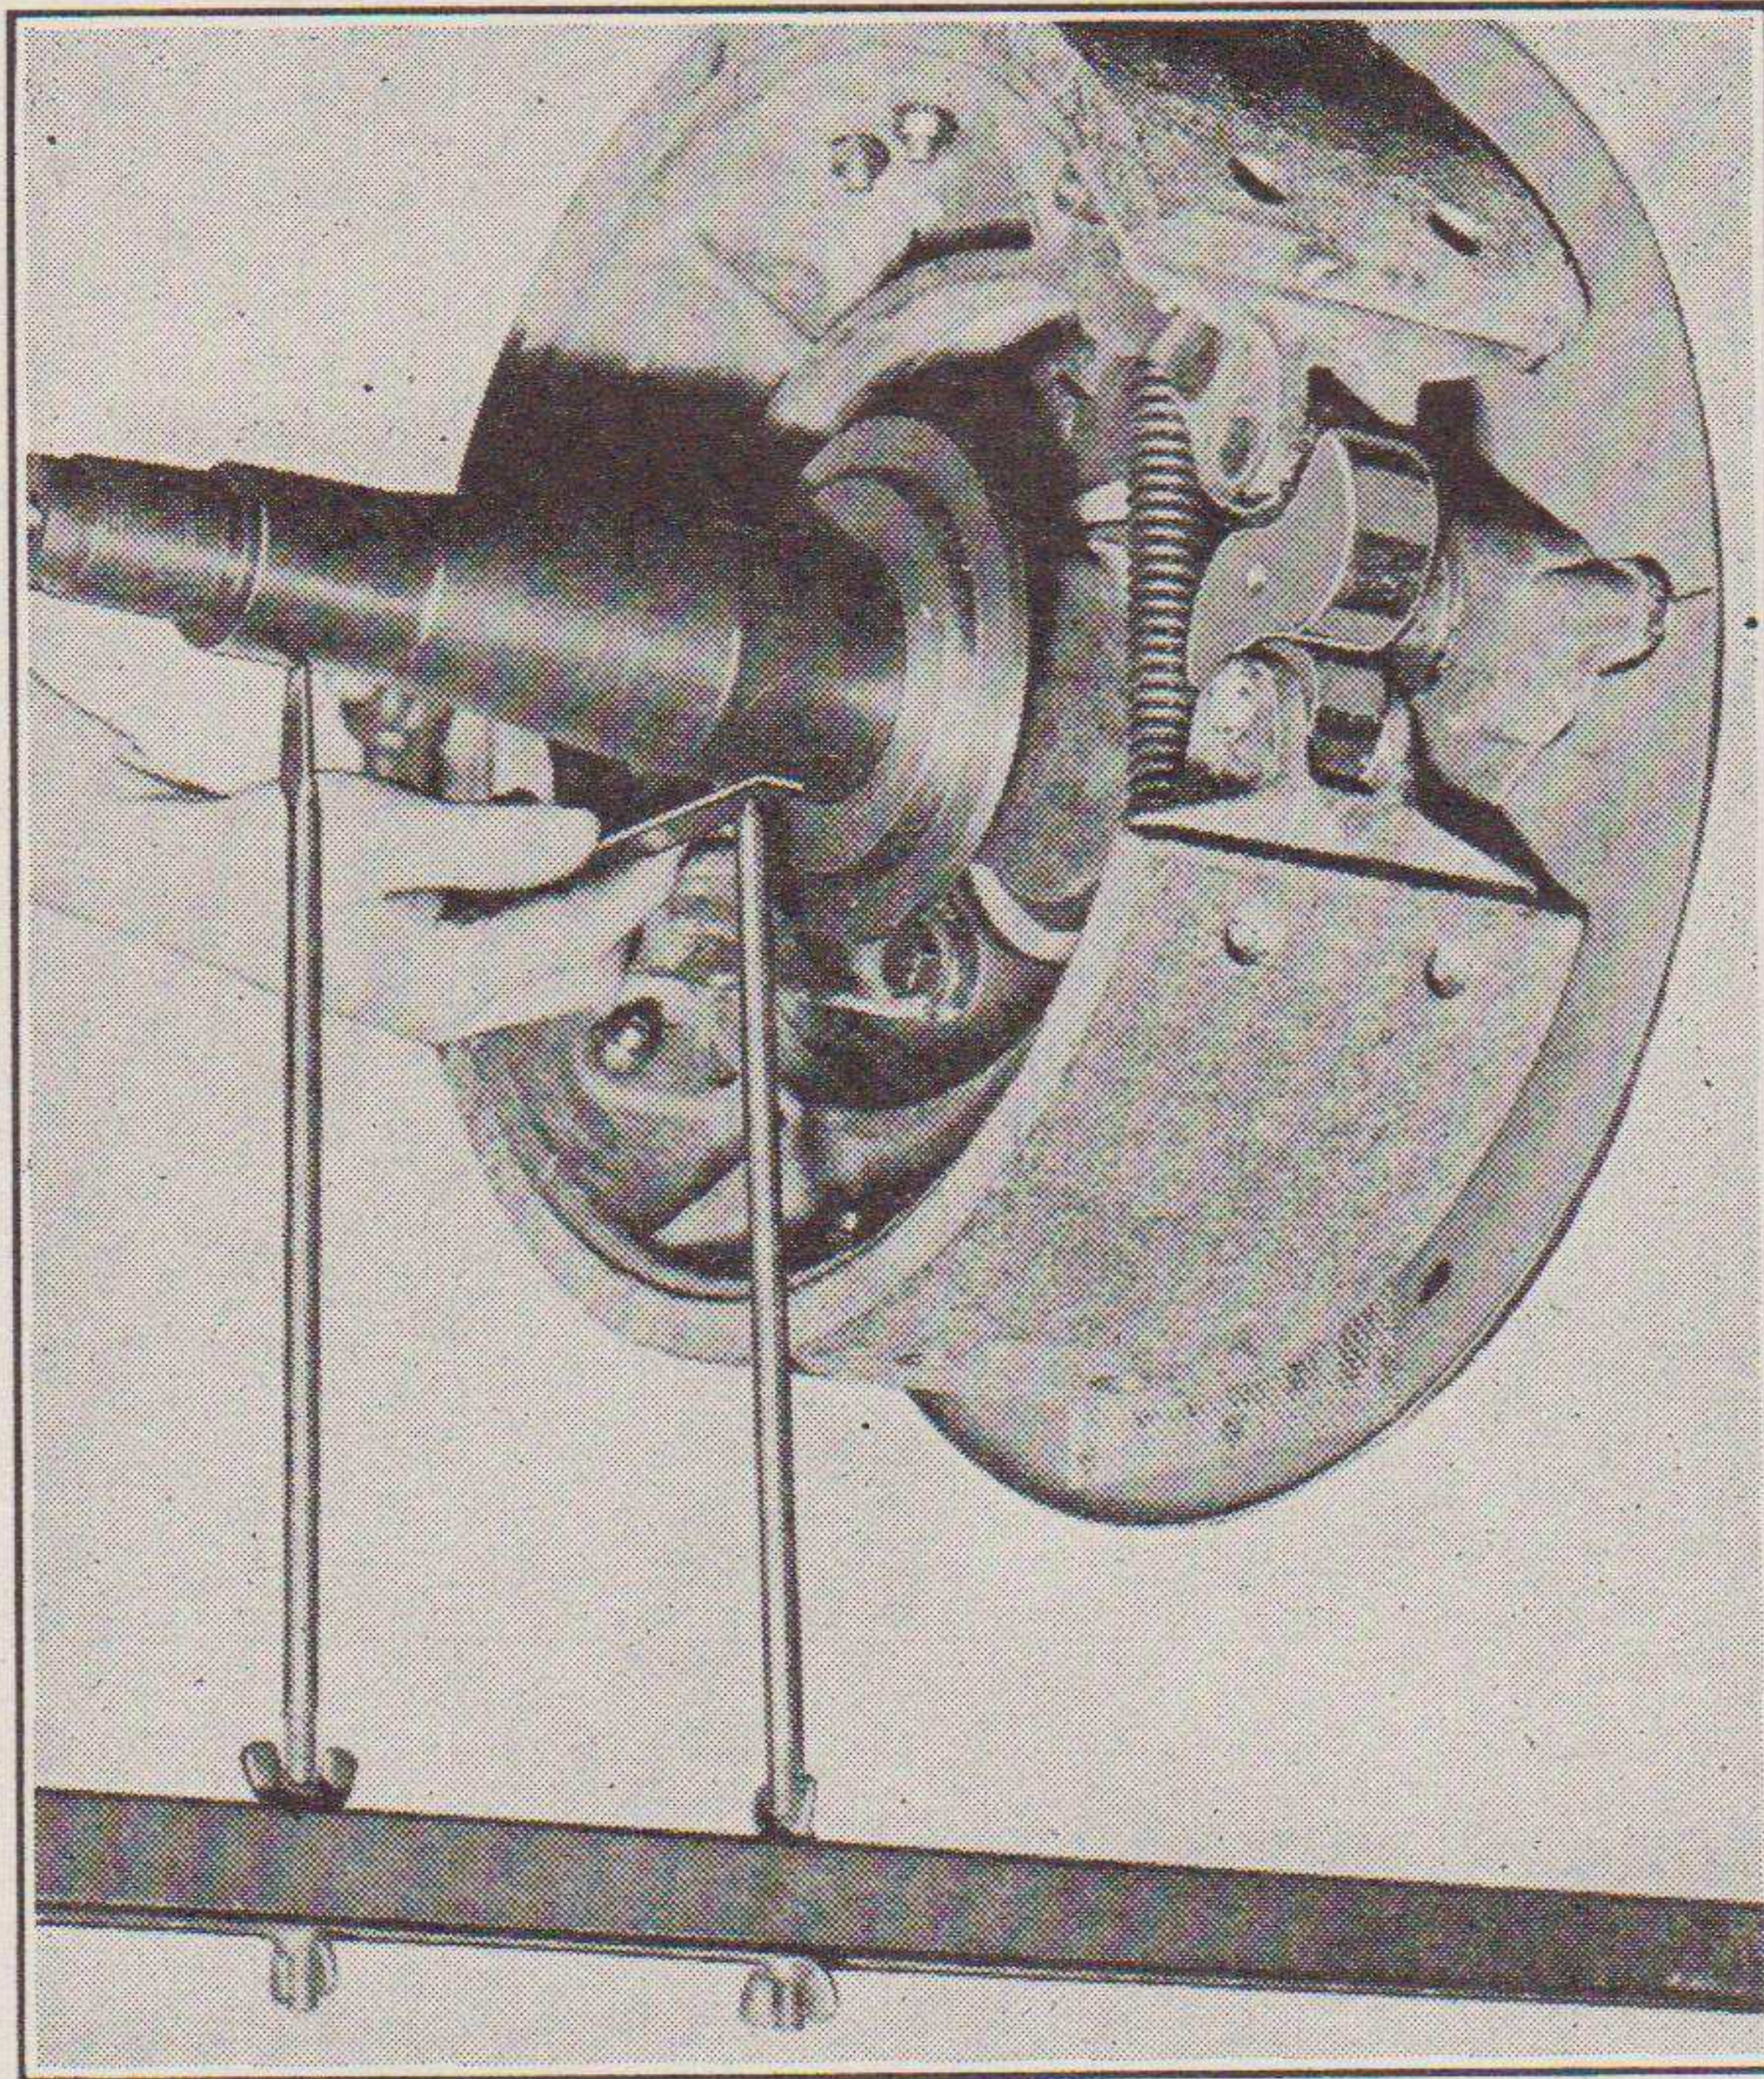

FIGURE 9. CHECKING FOR CAMBER
5. CHECKING FOR CAMBER (Refer to Figure 9).—*a.* Set the points of the axle gauge in exactly the same position on the axle and in the same manner as outlined in points *a* and *b* of Checking for Bend.